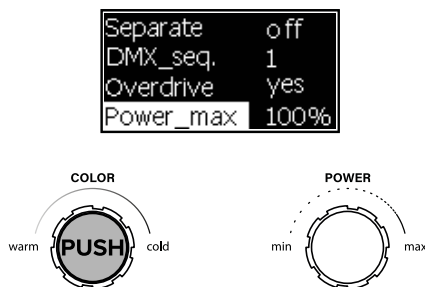

Fig. 39
1. Pressing on the left encoder brings up a menu for selecting the **Power_max** parameter value (Fig.39).